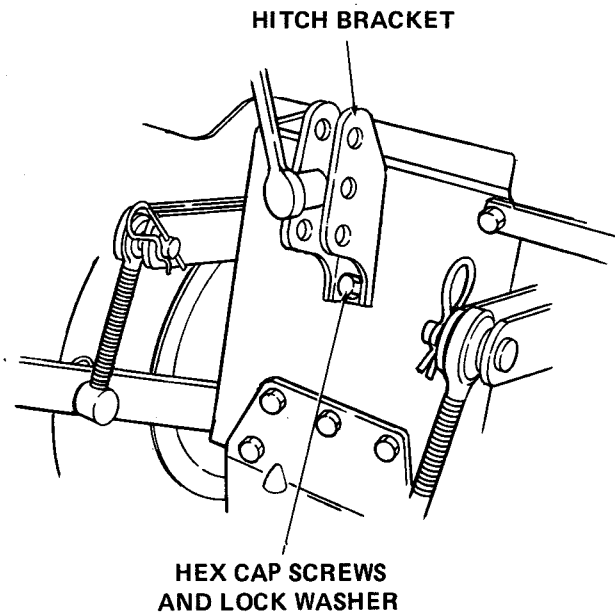

Figure A-21
9. Install hitch bracket (7) on 3-point hitch plate assembly with two lock washers (B) and hex cap screws (M). Refer to Figure A-21.